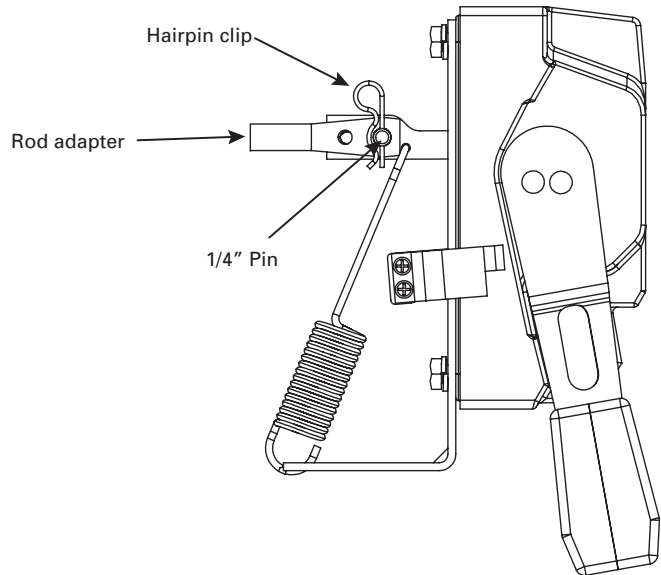

Fig. 3-1. Install rod adapter using 1/4" pin and secure with hairpin clip.
Step 1. Install rod adapter onto the flange handle toggle and secure using the 1/4" pin and hairpin clip (see Fig. 3-1).